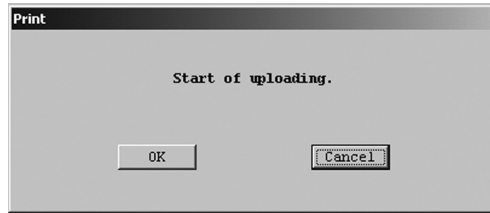

Fig.97
- ① Click on "File (F)" at the top-level menu of the screen, select "Print (P) Cntl+P" and click on again.
- ② When a message box as shown in Fig. 97 appears, click "OK" to print. If you don't want to print, click "Cancel".